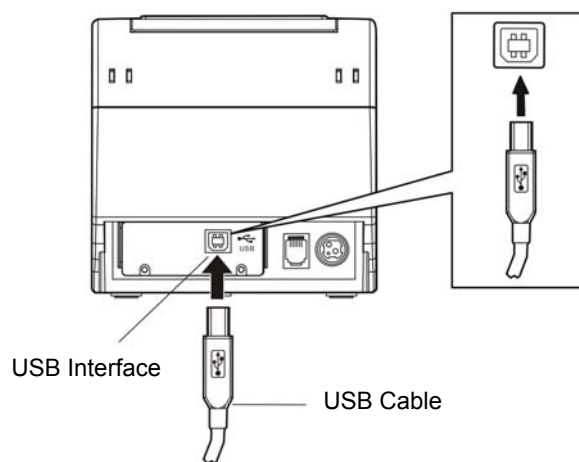

Figure 2-4 Connecting the USB cable
2. Plug the USB cable B end (square shape) into the printer's USB interface as shown in Figure 2-4.